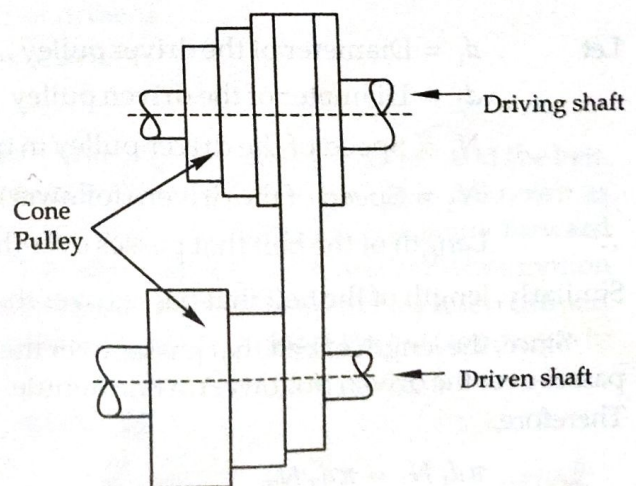

Fig. 10 Stepped or cone pulley drive
6. **Stepped pulley drive:** This type of drive is used for changing the speed of the driven shaft while the main or driving shaft runs at constant speed. This is accomplished by shifting the belt from one part of the steps to the other. A stepped pulley drive is shown in Fig. 10.